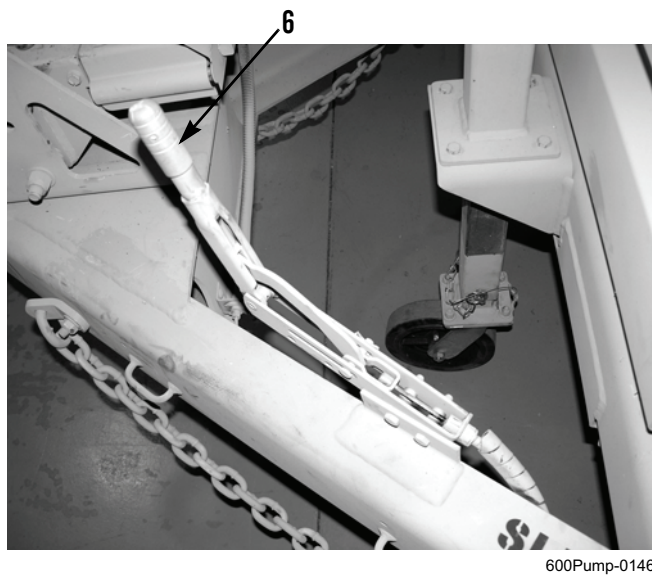

Figure 3. Adjustment Knob.
2. Turn adjustment knob (Figure 3, Item 6) clockwise (right) as far as possible by hand.
4. If hand brake cannot be applied, turn adjustment knob (Figure 3, Item 6) counterclockwise (left) until hand brake can be applied.